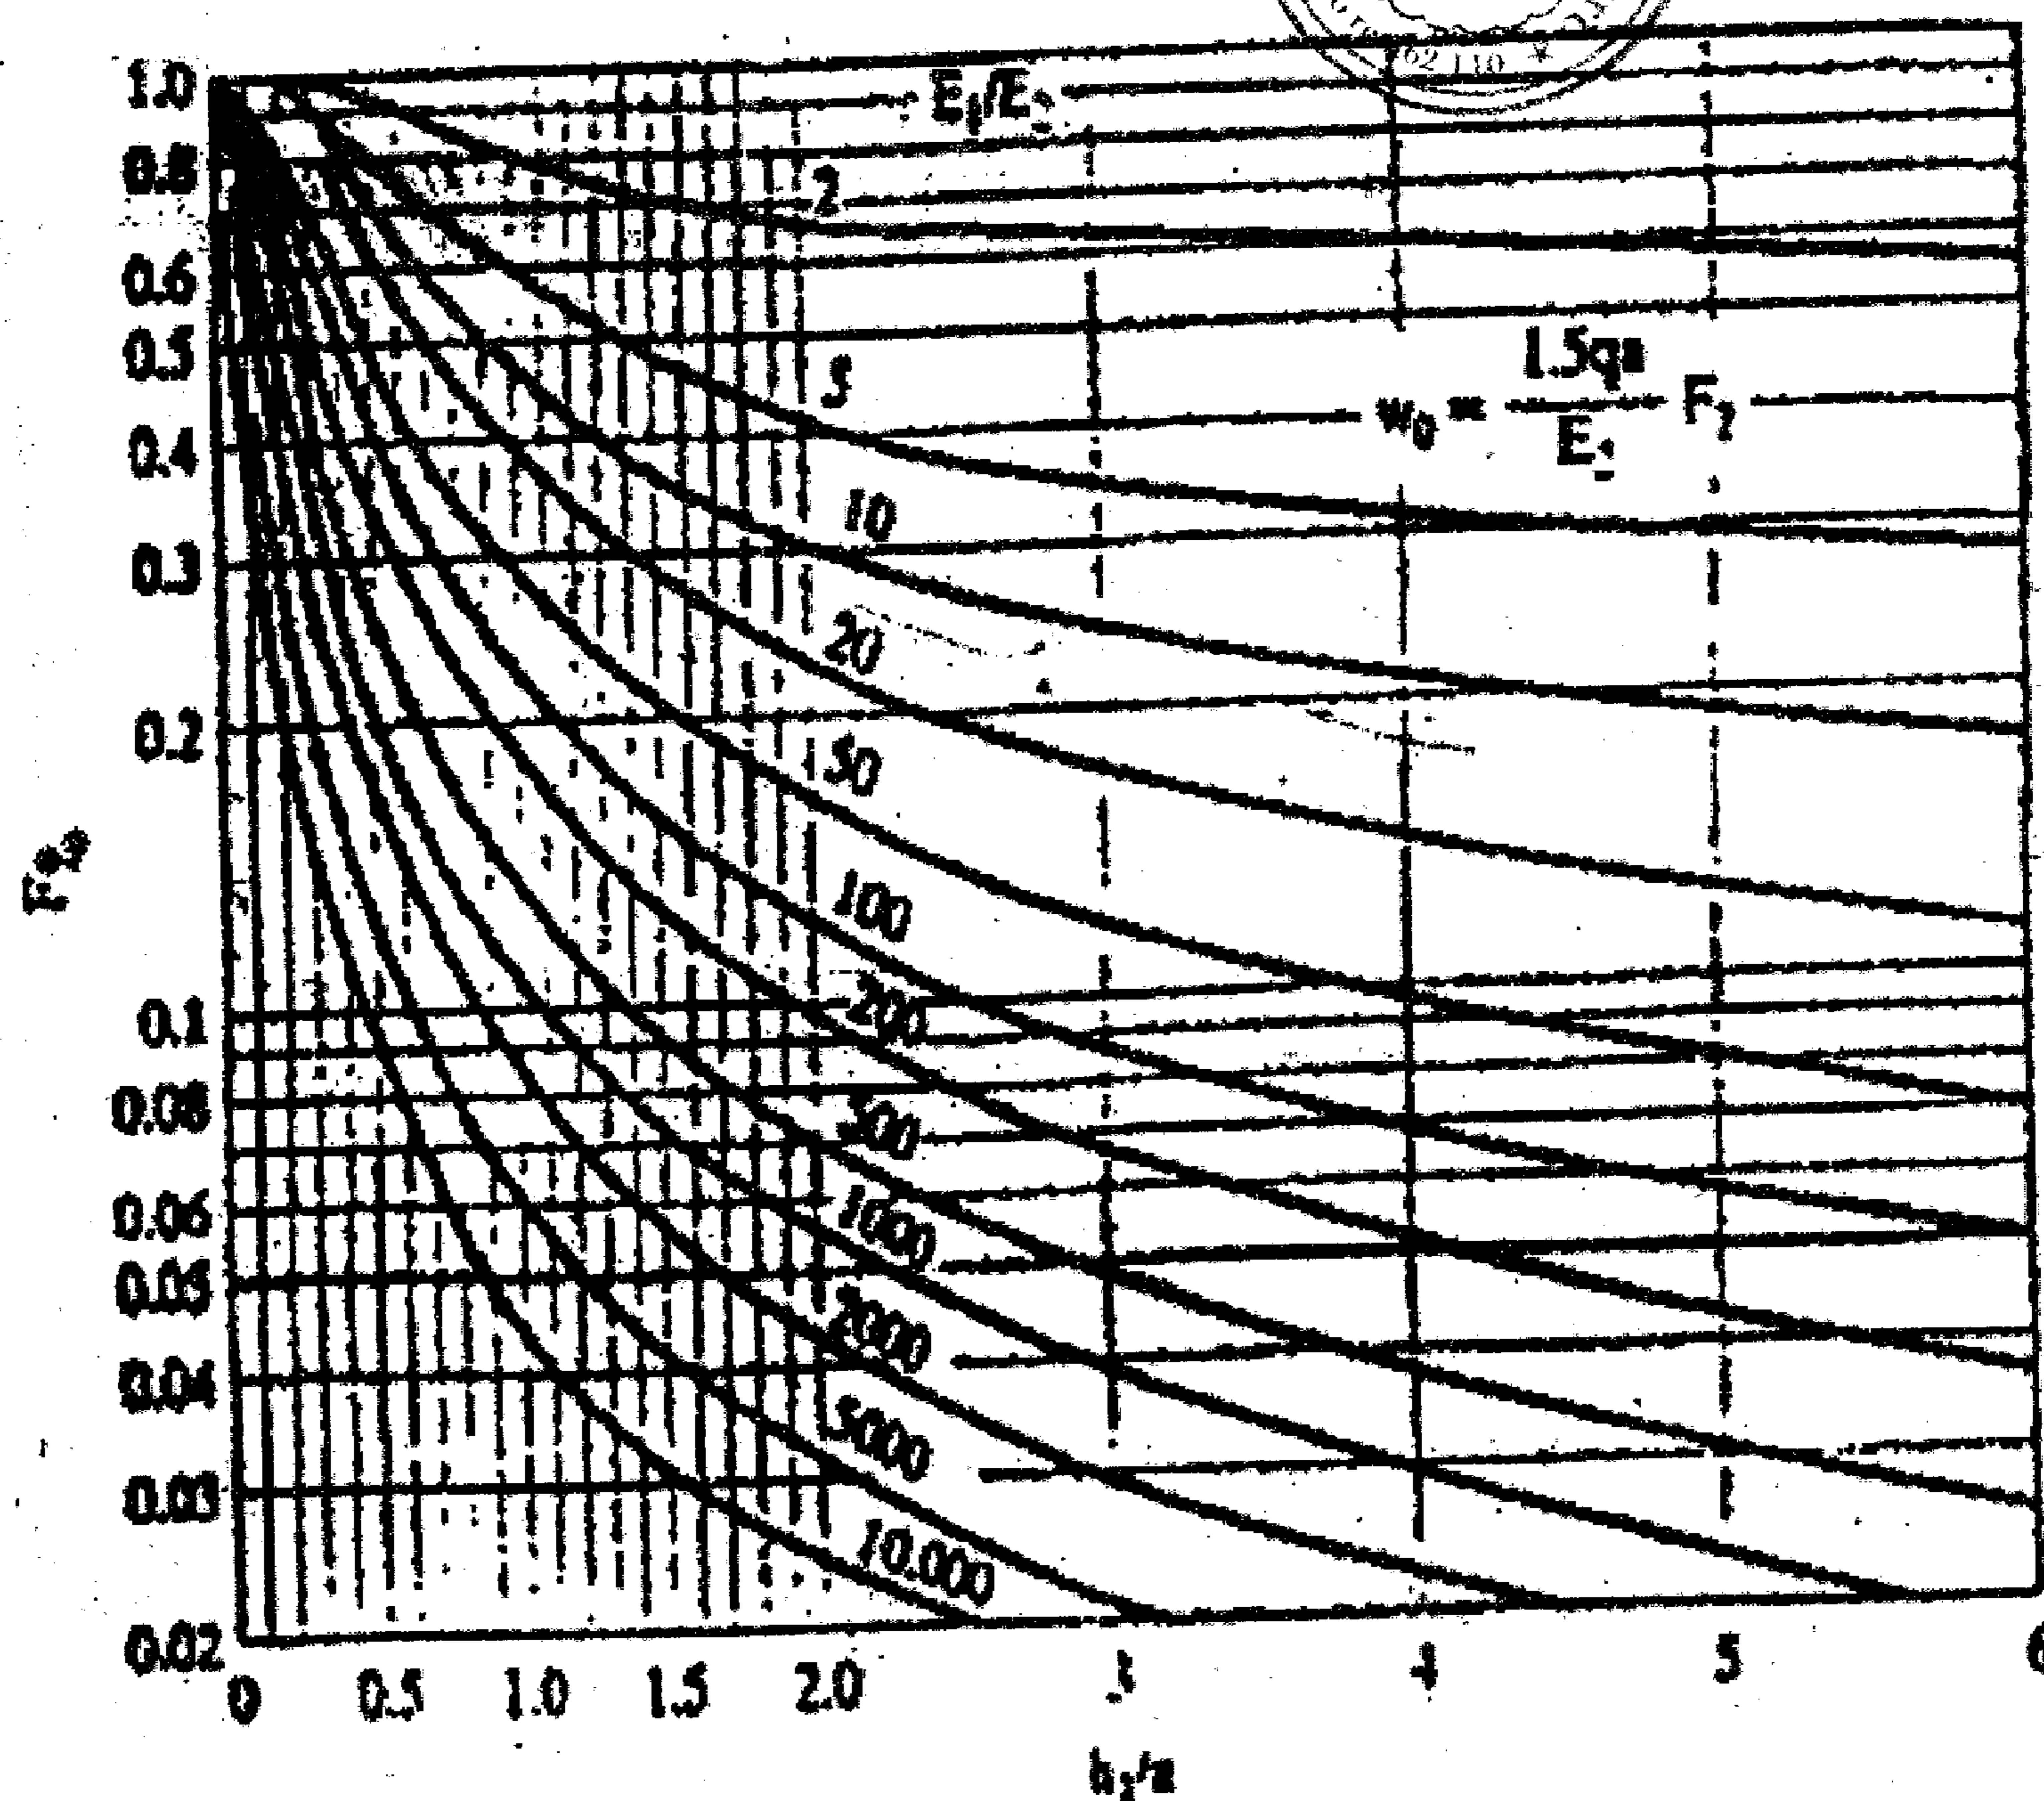

Fig. 3(b)
- b. A plate load test conducted with 300mm diameter plate on subgrade and on a pavement of thickness 400mm sustained pressure of 0.10 N/mm² and 0.40 N/mm² respectively at 5mm deflection. Design the pavement section for 50kN wheel load and contact pressure of 0.7 N/mm² for an allowable deflection of 8mm using Burmister's approach. If you want to maintain the deflection of 6.5mm, what should be the required thickness? Use chart in Fig. 3(b). (12 Marks)